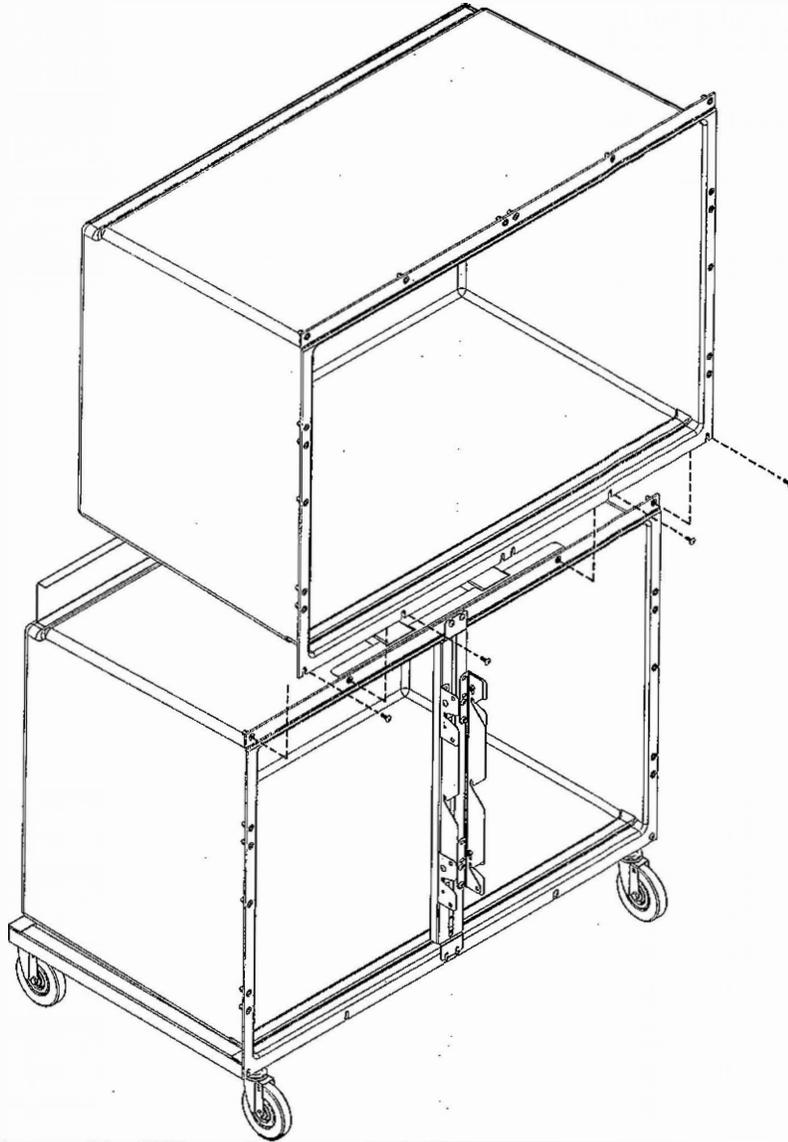

Figure 43
1. Place four screws (**062.2507.05**) in the holes indicated in Figure 43. **DO NOT** tighten all the way.